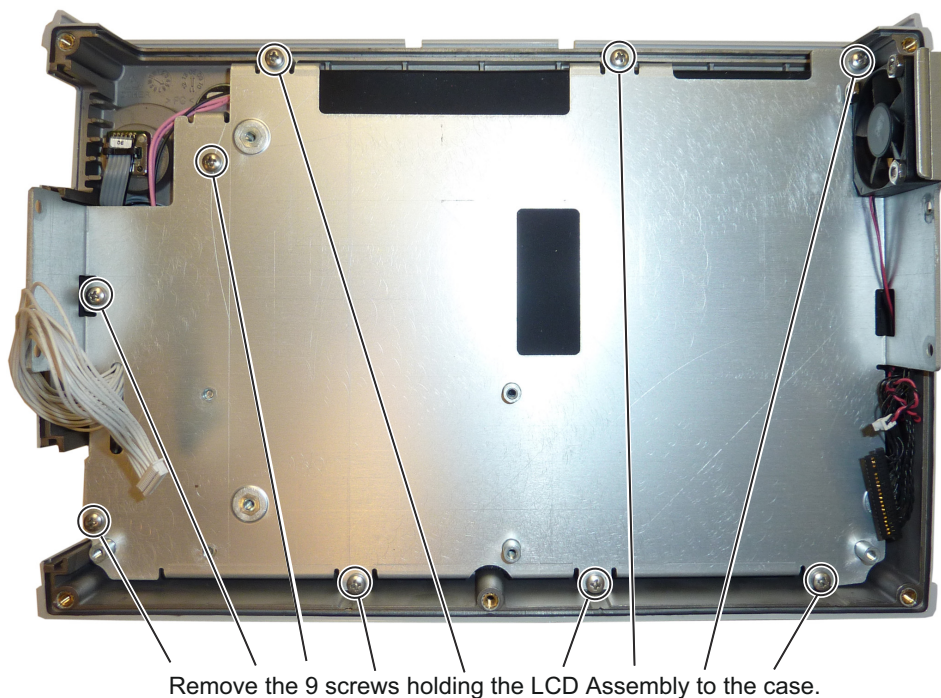

Figure 7-10. Removing the LCD Assembly
3. Remove the 9 screws connecting the LCD Assembly to the front half of the case (Figure 7-10).